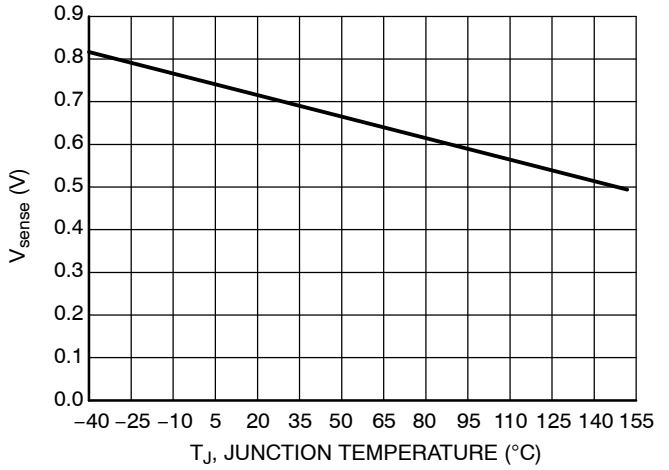

Figure 2. V_{sense} vs. Junction Temperature
- a. $R_{ext} = V_{sense} / I_{LED}$ (see Figure 2)